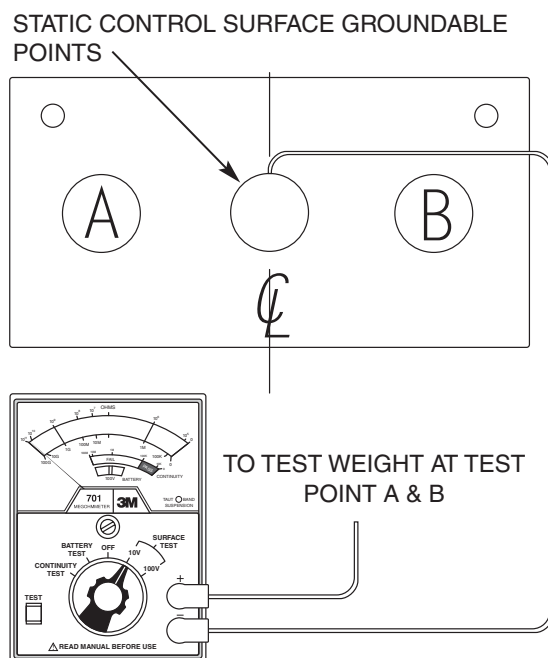

Figure 5-5: Material Evaluation Surface to Surface Test
E. Surface-to-surface Test: Test samples as shown in Figure 5-5; use both test weights and repeat the same test procedure used to determine (R_{TS-GP}).